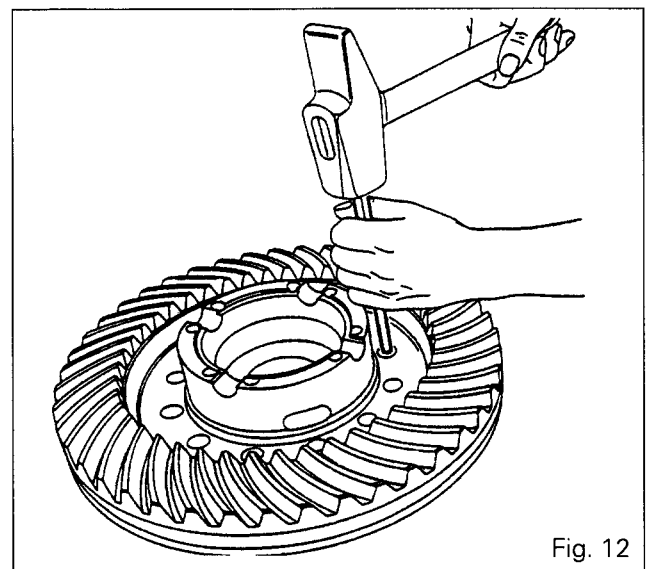

Fig. 12
53. Drive the rivets out with a suitable drift punch (Fig. 12).